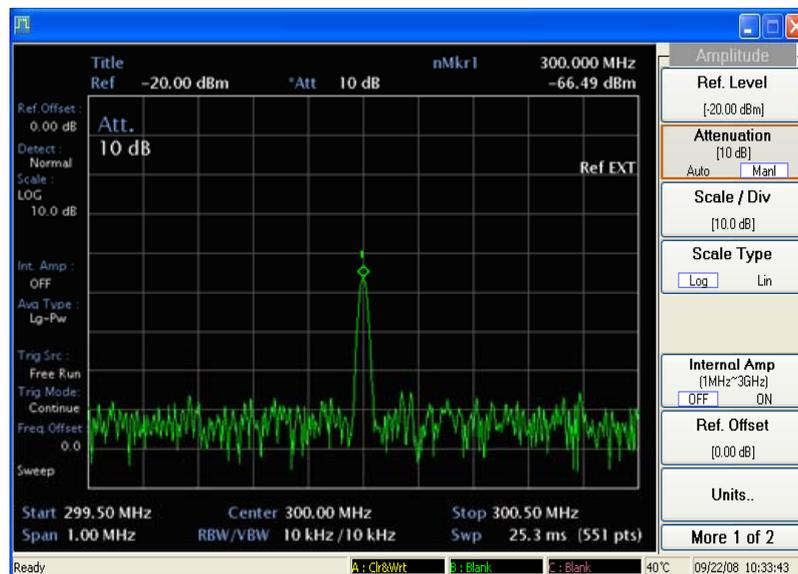

Fig. A-12 Low-level signal with 10 dB attenuation
- 9 Press [AMPL], [Attenuation Manl]. Press the step-up key (\blacktriangle) to select 10 dB attenuation. Increasing the attenuation moves the noise floor closer to the signal. See Fig. A-12. A '*' appears next to the ATT annotation at the top of the display, indicating that the attenuation is no longer coupled to other analyzer settings.